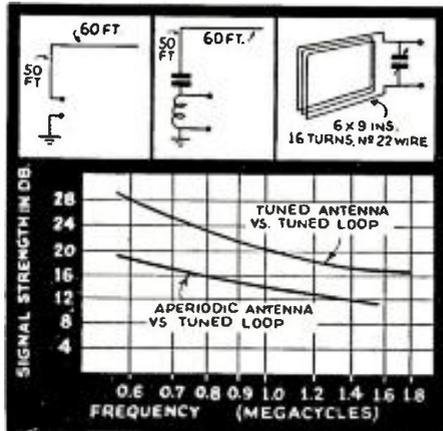
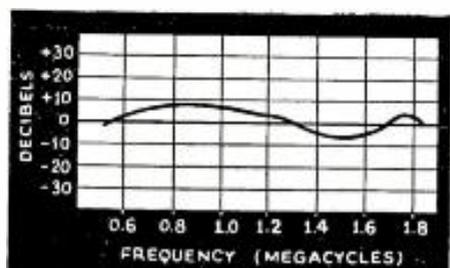

Fig. 1. Signal strength of tuned and untuned antennas compared with a tuned loop.
Fig. 2. Comparison of relative signal strength received from a noise-reducing system vs. conventional antenna of same dimensions.
B.—The only other circuit in F.M. receivers which is particularly annoying to the Servicemen at present is the discriminator circuit. However, if we analyze this portion of the receiver very carefully it will soon be seen that this is exactly the same as similar circuits which were used for automatic frequency control in A.M. receivers. See Fig. 1. The adjustment of these circuits is exactly the same as shown.
The graph of Fig. 1 shows a typical instance of relative signal levels from a tuned loop vs. ordinary outdoor antenna of the tuned and untuned types. Figure 2 shows the relative signal levels from a noise-reducing outdoor antenna (an outdoor antenna, equipped with noise-reducing units) vs. an ordinary outdoor antenna (that is, the same antenna without the noise-reducing units and with an open downlead).
From these graphs the superiority of the antenna over the loop for signal strength alone is established in these particular examples by inspection of Fig. 1. The superiority of the signal strength of the antenna equipped with noise-reducing units and transmission line over the conventional type, of the same dimensions, is apparent from Fig. 2.